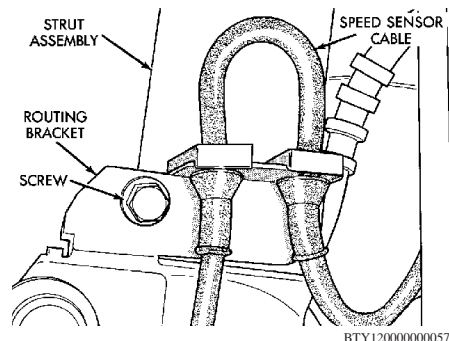

Fig. 5 Speed sensor cable routing bracket removal
- f. Remove speed sensor cable routing bracket from strut assembly if vehicle is equipped with anti-lock brakes, **Fig. 5**.